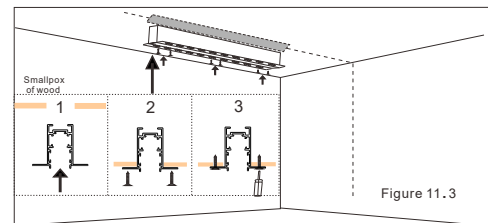

Figure 11.3
3. Insert the track into the perforated ceiling, fix the screw holes on both sides of the track with self-tapping screws, and check whether the track installation is firm and safe; (See Figure 11.3)